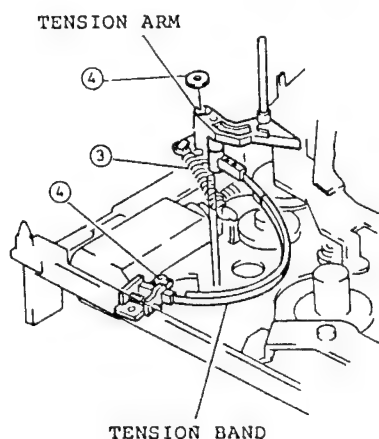

Fig. 2-75
3. Remove the spring between the tension arm and chassis. (See Fig. 2-75)
4. Remove one (1) washer holding the tension arm and one (1) screw holding the tension band.
4. Remove the tension arm and tension band. (See Fig. 2-75)
5. Remove one (1) washer holding the supply guide roller base.
5. Remove the tension arm and tension band. (See Fig. 2-75)